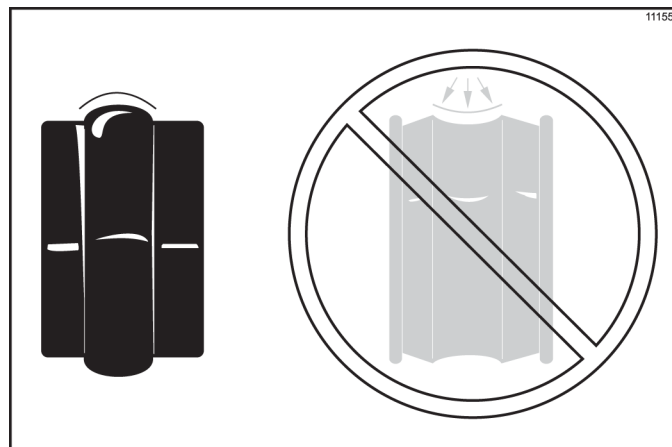

Figure 6-3
**Note:** To ensure that the mix does not leak out of the back of the freezing cylinder, the middle section of the boot seal should be convex or extend out from the seal. If the middle section of the boot seal is concave or extending into the middle of the seal, turn the seal inside out. (See Figure 6-3.)